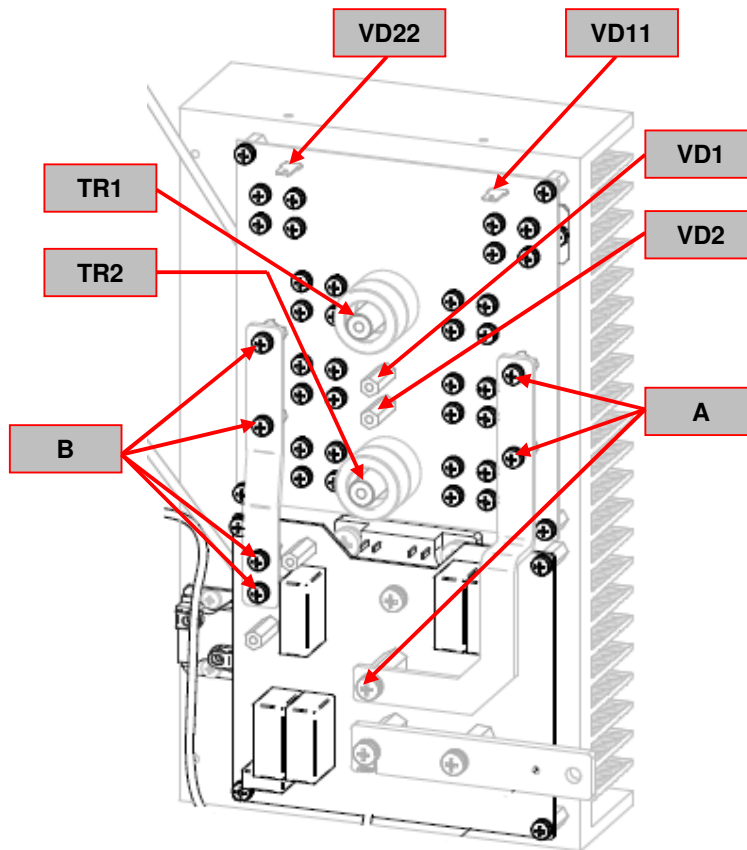

Figure 34
3. Locate the Output Diode board W05X1523 on the left side of the machine, see **Figure 34**
See **Figure 34**
6. Using the phillips screwdriver remove and label the main transformer leads connected to the terminals **TR1** and **TR2**. See **Figure 34**
7. Using the screwdriver reinstall the 3 screws (**A**) to the right copper bar. (torque 3Nm max.). See **Figure 34**
8. Using the screwdriver reinstall the 4 screws (**B**) to the left copper bar. (torque 3Nm max.). See **Figure 34**
9. Reconnect the previously removed and labeled cables to terminals **VD11** and **VD22**. See **Figure 34**
10. Using the screwdriver reconnect the previously removed and labeled leads to the terminals **VD1** and **VD2** (torque 3Nm max.). See **Figure 34**
11. Using the screwdriver reconnect the previously removed and labeled main transformer leads to the terminals **TR1** and **TR2** (torque 3Nm max.). See **Figure 34**